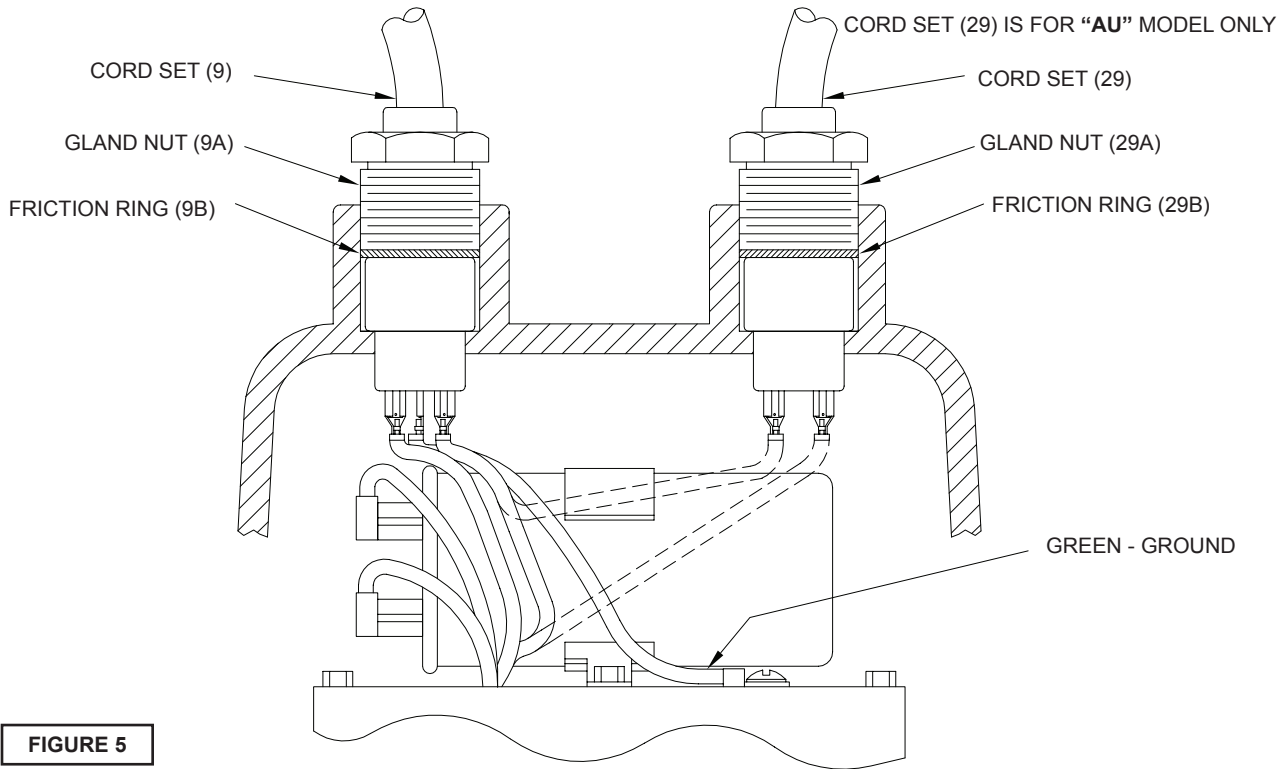
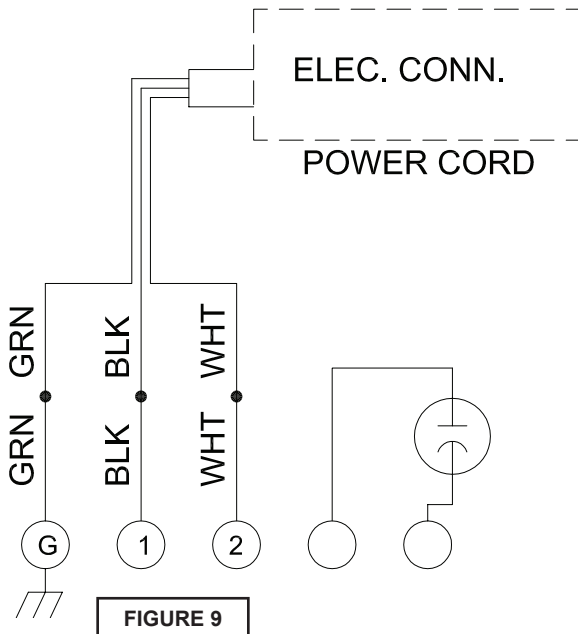
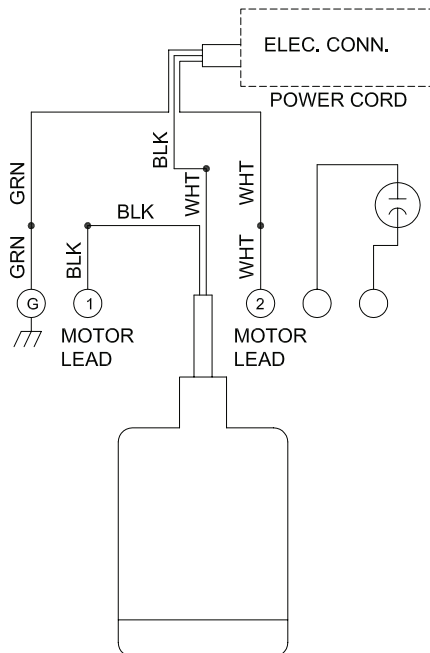

FIGURE 5
**FIGURE 7**
**FIGURE 8**
**BP & SE Series, Motor** - To examine or replace the motor (1) or bearing (4), remove body and impeller as per section F-2.1. Drain oil from motor housing as per section F-1.2. Remove gland nut (9a) and friction ring (9b) from motor housing (14). Pull cord through opening and disconnect the motor wires from the terminals on cable (9), see Figure 5. Remove socket head screws (15) and lift motor housing (14) from seal plate (2). Remove o-ring (13) and inspect for breaks. Loosen motor screws and pull motor (1) straight up and off seal plate (2). Inspect all parts for signs of wear and check motor resistance values.
On "AU" series pumps gland nut (29a) and friction ring (29b) must also be removed from motor housing (14) and pulled through opening and motor wires from the terminals on cable (2), see Figure 5.
On **BP & SE Series**, slip motor wires through opening in motor housing (14) see Figure 5. Connect motor wires to cord set as per Figure 7. Place friction ring (9b) and gland nut (9a) into motor housing (14) and tighten gland nut to 17.5 ft. lbs. On **“AU”** series pumps slip float wires through opening in motor housing (14) and connect to float cable (29) see Figure 8. Place friction ring (29b) and gland nut (29a) into motor housing (14) and tighten gland nut to 17.5 ft. lbs.